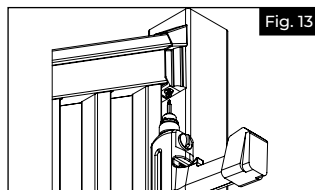

Fig. 13
- Center rail on post. Then, using a $\frac{5}{32}$ " drill bit, pre-drill the first hole through the top rail bracket, vinyl or composite post jacket, and into wood post (or plastic spacer of post install kit) (Fig. 13).
- d. While tightly squeezing the bracket cover closed, pre-drill using a $\frac{5}{32}$ " drill bit through the two holes underneath. Then, drive two #10 x $1\frac{1}{4}$ " square drive screws through the cover, metal bracket and into the top rail (Fig. 13).